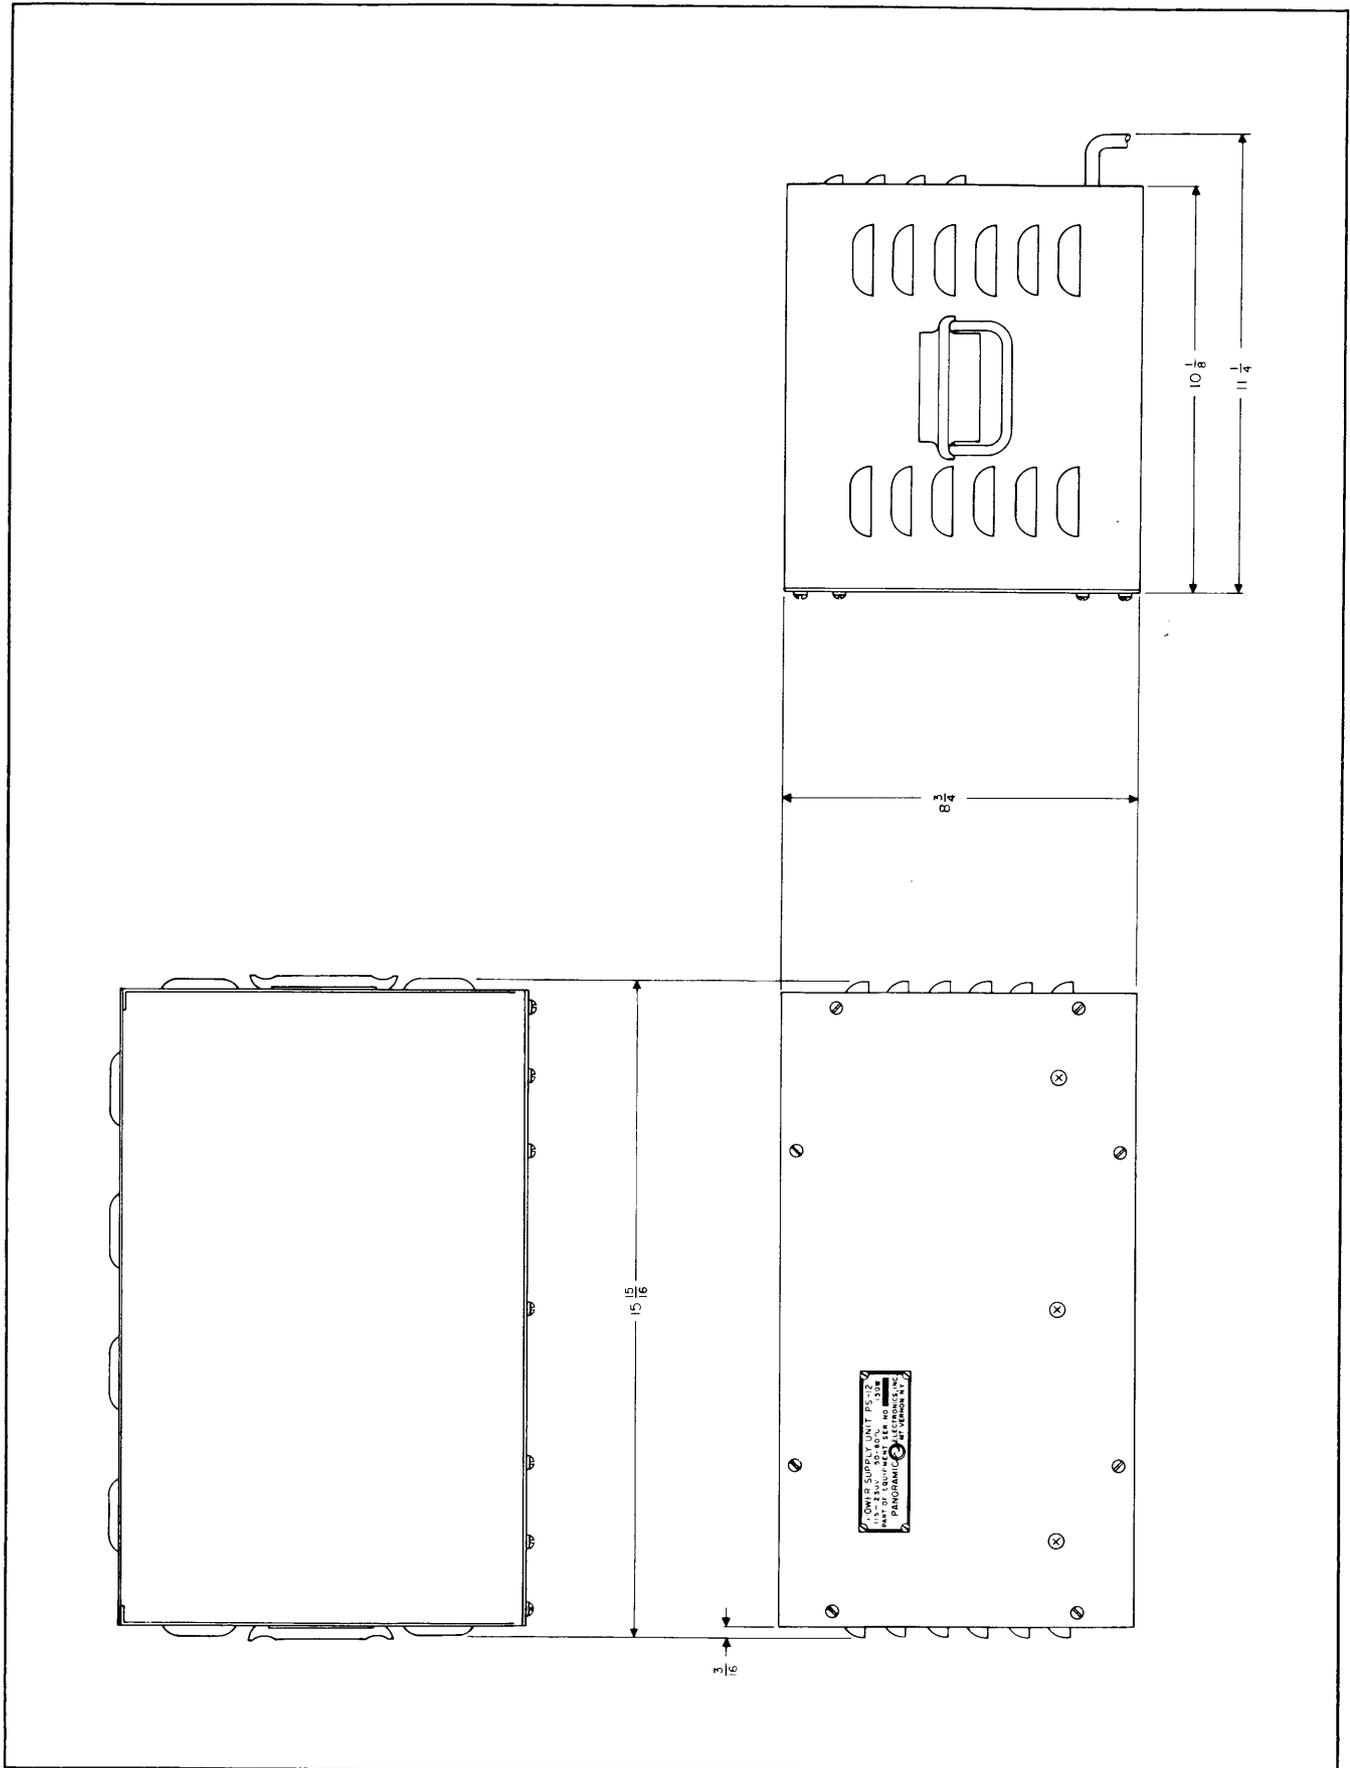

Figure II-5. Outline Dimensional Drawing, Model PS-12 in Cabinet.
b. An amplitude-modulated carrier appears as a deflection of variable height. Non-constant tone modulation of low frequency will produce a series of convolutions varying in height, their number being determined by the modulation frequency. The nature of the presentation will depend upon the sweep width (Figure II-5.a. and b.).